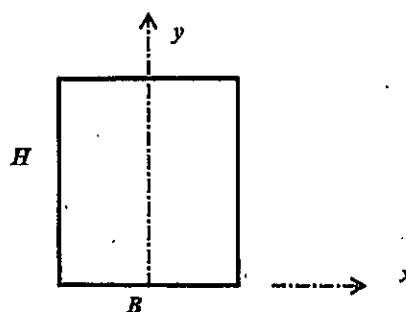

Fig.2 長方形断面
- 3) Fig.2 に示す長方形断面を有する梁の曲げを考える。
Considering a rectangular cross-section in Fig.2. Answer the maximum shear stress  $\tau_{\max}$  subjected to a shear force  $Q$  in the negative  $y$  direction, i.e.,  $-y$  direction.
図-2 (Fig. 2)
- (4) 図-2 に示す盛土を粘土地盤上に瞬時に造成した。盛土を造成する前、造成直後、造成後長時間経過時における、粘土地盤の鉛直全応力、鉛直有効応力、間隙水圧の深度分布を図示せよ。また各段階での地点 A, B における鉛直全応力、鉛直有効応力、間隙水圧の値を求めよ。ただし粘土地盤は  $K_0$  条件で載荷されているものとする。なお地点 B の深度は 5m である。
- An embankment shown in Fig. 2 was instantly constructed on the clay ground. Illustrate distributions of total vertical stress, effective vertical stress and pore water pressure in the clay ground along the depth, for the three stages which are before the embankment construction, immediately after the construction and long time after the construction. Besides that, obtain total vertical stress, effective vertical stress, and pore water pressure at point A and point B mobilized at the above three stages. It can be assumed that the clay ground was loaded under the  $K_0$  condition. Point B is located at a depth of 5m.